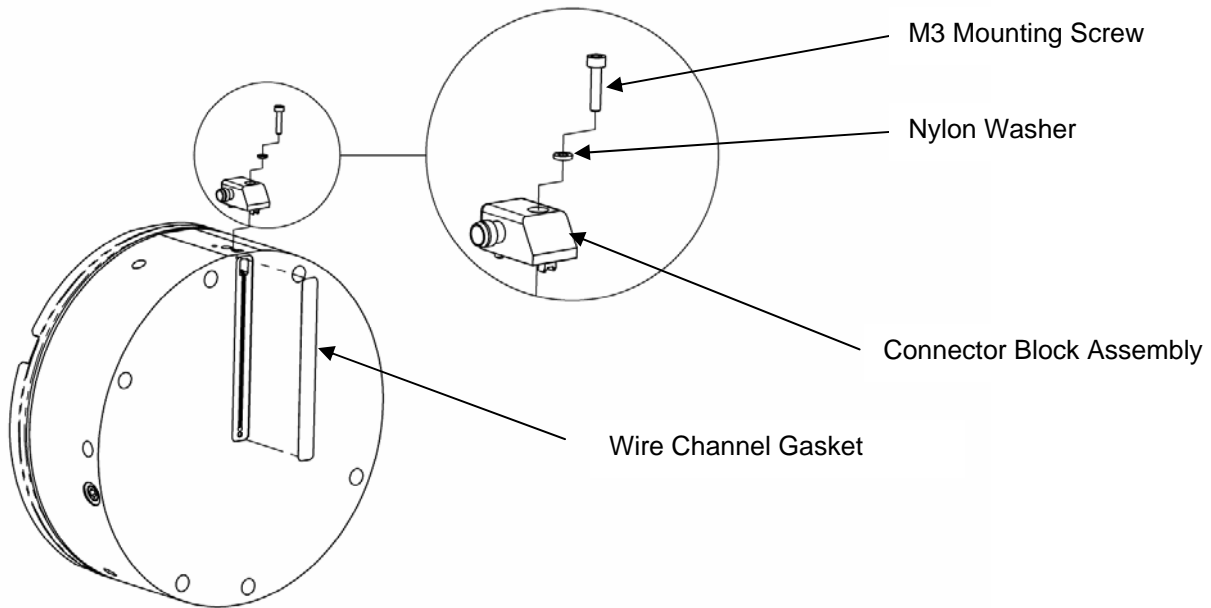
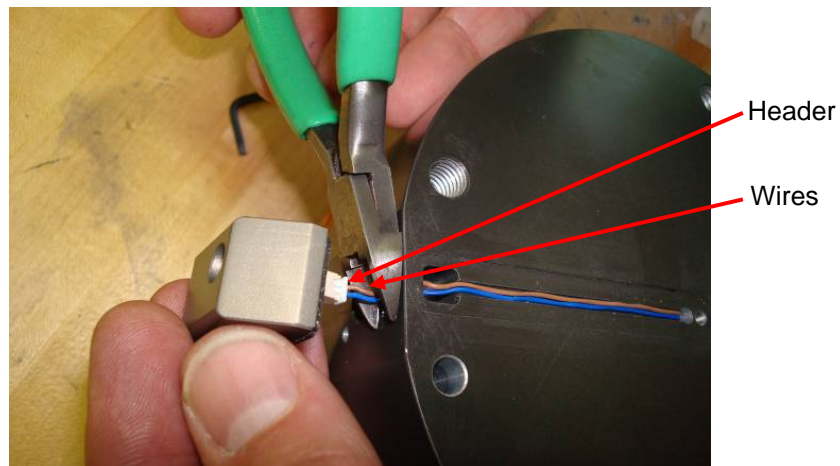

Figure 2.1—Removal of Connector Block Assembly and Switch Wiring
Figure 2.2—Cutting the wires.
2. Pull the Connector Block Assembly away from the Protector™ as shown in Figure 2.1 and cut the wires as shown in Figure 2.2.
4. Remove and discard the wire channel gasket (see Figure 2.1).